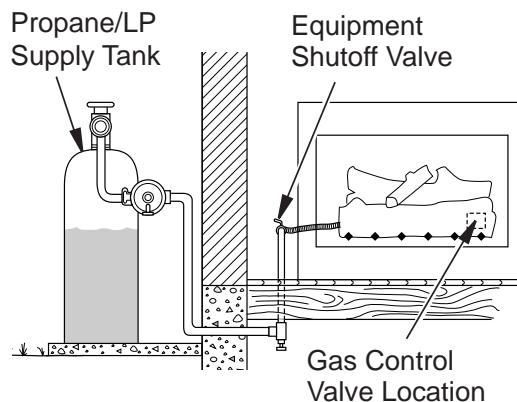

Figure 16 - Checking Gas Joints (Propane/LP Model Shown)
3. Check all joints from gas meter to equipment shutoff valve for natural gas or propane/LP supply to equipment shutoff valve for propane/LP (see *Figures 16 and 17*). Apply noncorrosive leak detection fluid to all joints. Bubbles forming show a leak.
4. Check all joints from equipment shutoff valve to gas control (see *Figures 16 and 17*). Apply noncorrosive leak detection fluid to all joints. Bubbles forming show a leak.